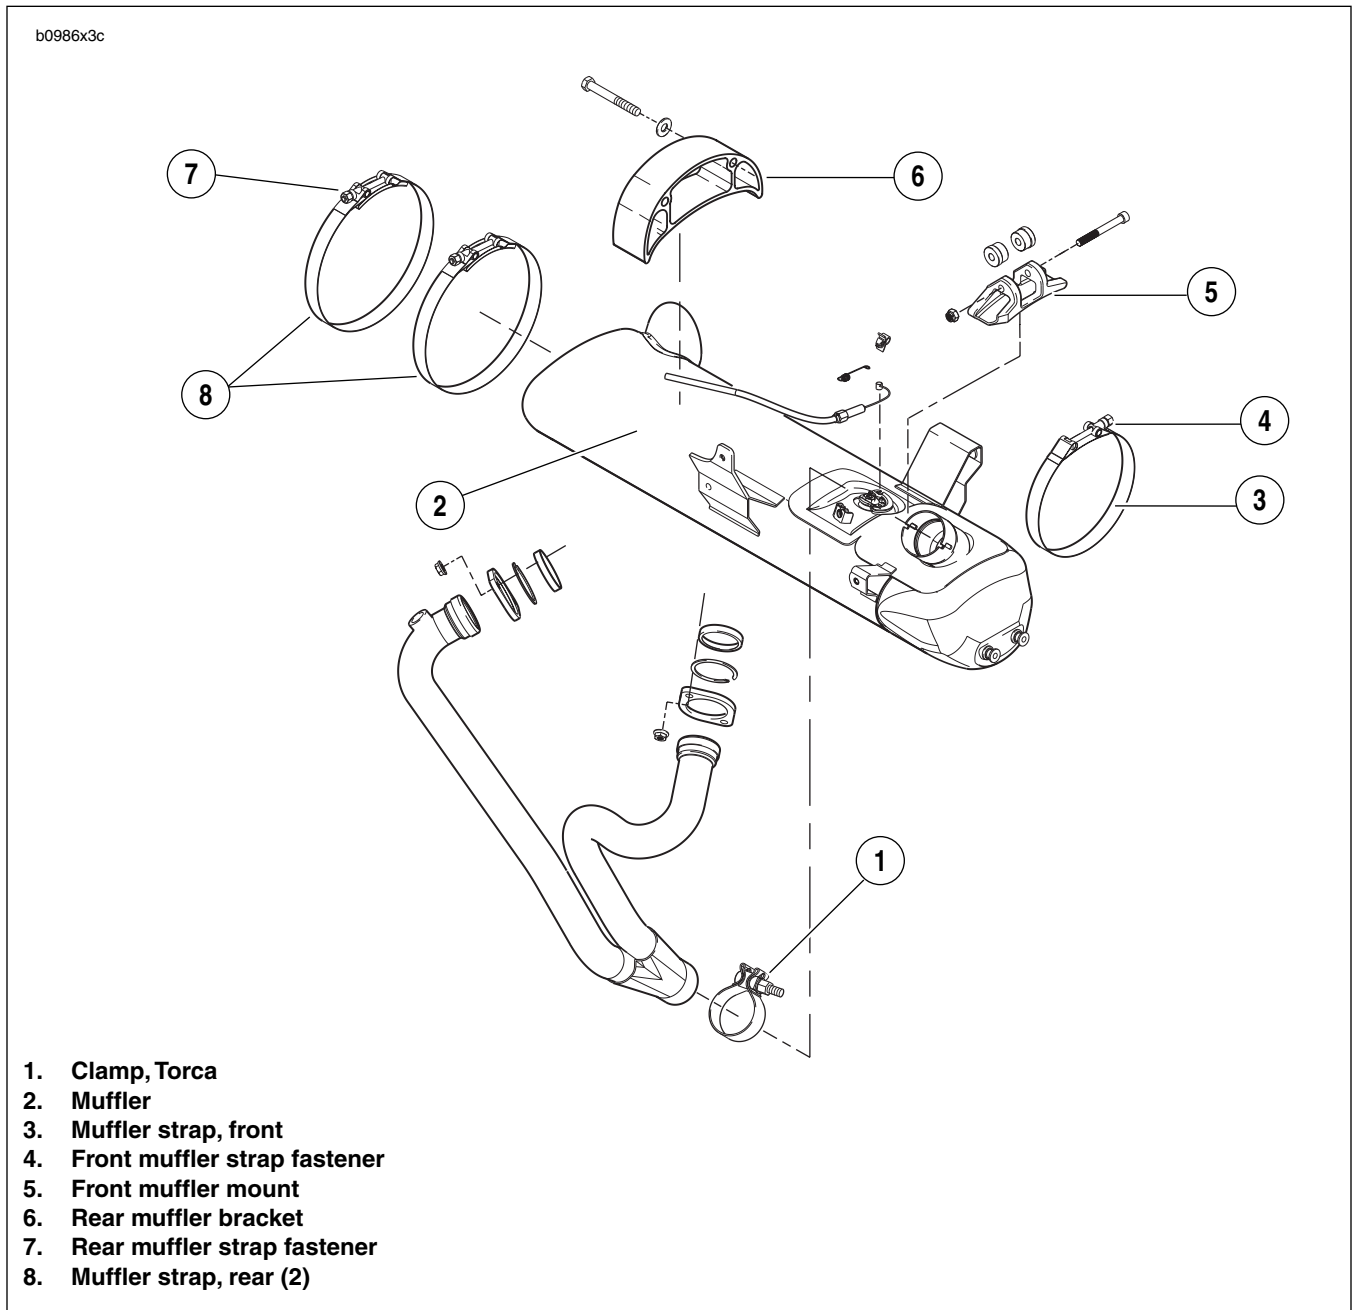

Figure 3-16. Muffer and Mounting System
16. See Figure 3-16. Remove muffer. See 2.32 EXHAUST SYSTEM.